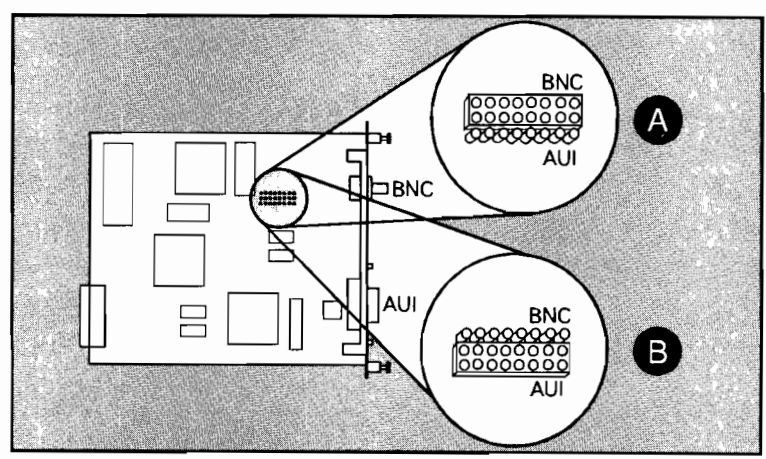

Figure 3-3. Configuring the Ethernet Adapter Card
3. Configure your Ethernet adapter card to use either the ThinLAN BNC port or the AUI port, by moving the jumper block to the appropriate position. Ⓐ in Figure 3-3 shows the BNC port setting. Ⓑ in Figure 3-3 shows the AUI port setting. **The factory default setting on the Ethernet adapter card is BNC port enabled.**